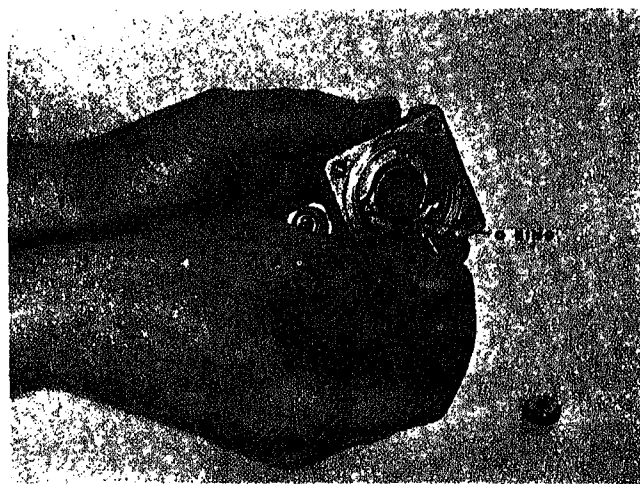

Fig. 505-4 Installing override shaft
1. If removed, install a new "O" ring on override shaft and coat with lubricant. Fig. 505-4.